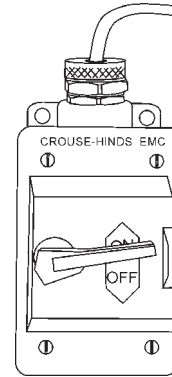

Figure 22. Power ON/OFF Switch (ON)
- Turn the power **ON/OFF** switch (Figure 22) to the **ON** position with the blade away from the material to be cut, the cutting blade should begin to rotate. Before cutting remember to follow all safety rules referenced in this manual.